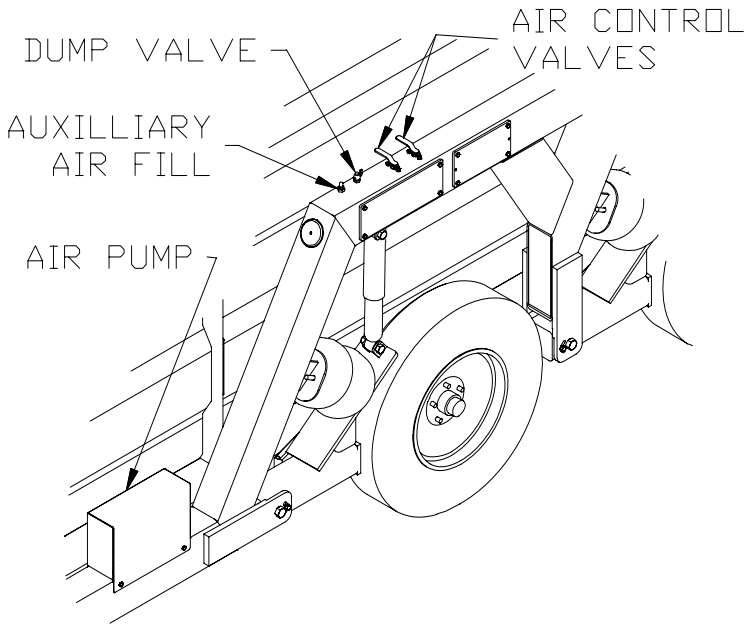

Figure 6 – Air System Controls
7. Open the two air valves, and slowly open the dump valve to dump the air from the trailer suspension (see Figure 6). The trailer will lower to the ground.